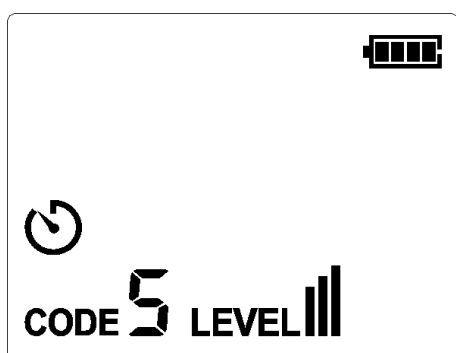

Figure 6.1.1a
2. The transmitter is in power-on state by default (Transmission is not started by the transmitter), short press the START/STOP button to stop transmission when transmission is started by the transmitter. When the CODE button is short pressed, the CODE symbol flashes for 0.5s, as shown in Figure 6.1.1a.